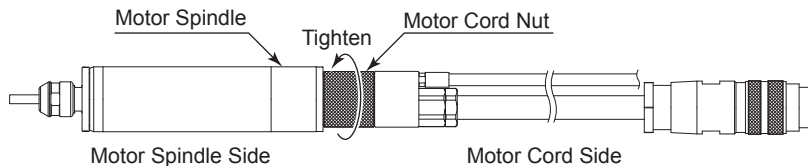

Fig. 32
- For **BM-319 / BM-319C / BM-319F / BM-319FC / BM-320 / BM-320F / BM-322 / BM-322FR / BM-322FL / BM-322FS / BM-325** "Hose Length" indicates total hose length consisting of the Quick Disconnect Hose and the motor cord hose. See Fig 32 to see how to calculate "Hose Length".